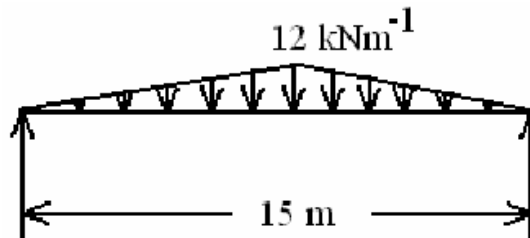

Figure 1
- 2.a) Develop Bending moment and Shear force for the Figure 1 given below indicating the maximum and minimum values.